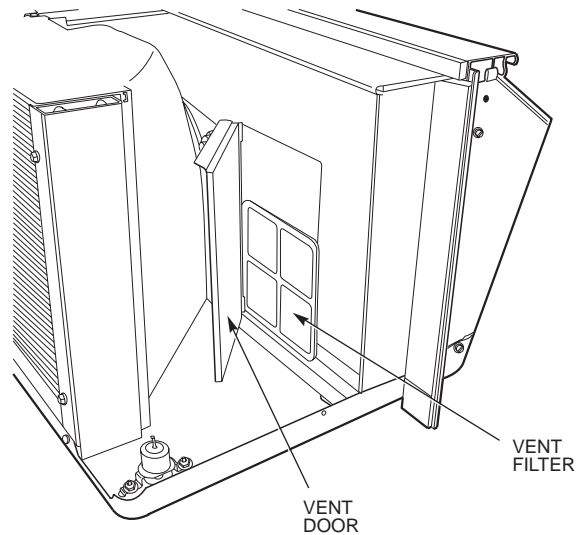

FIGURE 23 — ACCESSING VENT AIR FILTER
2. Swing open vent door. The filter is located directly behind the vent door. See Figure 23.